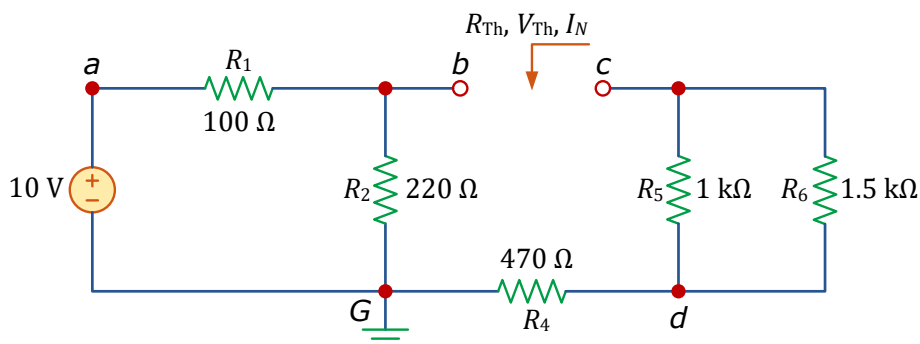

Figure 4.3: Resistive circuit used to calculate Thevenin and Norton equivalent circuits from terminals b and c .
- 2 Find the Thevenin and Norton equivalent circuits from across terminals b and c (i.e., assuming R_3 to be a load resistor), as shown in Figure 4.3. Show all working and sketch the equivalent circuits.